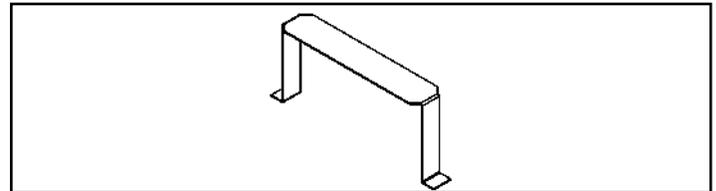

Figure 3N - Restrictor Plate.
* If the horizontal distance is less than 760mm (30 in.), the restricter plate must be installed (see Figures 3N & 3O).